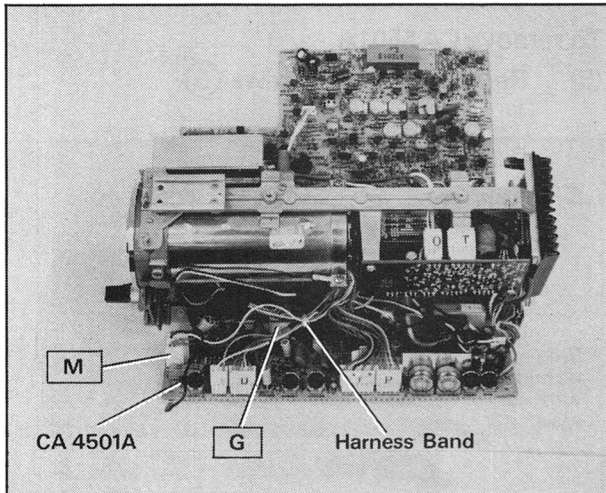

Fig 3.9
- (6) Remove CA 4501A (as in item (4))
- (7) Remove by cutting, the restraining harness band shown in Figure 3.9, and withdraw connectors **M** and **G**
- (8) Remove CA 1501A as in item (1)
- (9) Withdraw the six connectors **B** **H** **K** **L** **N** and **Q** from CA 1501A